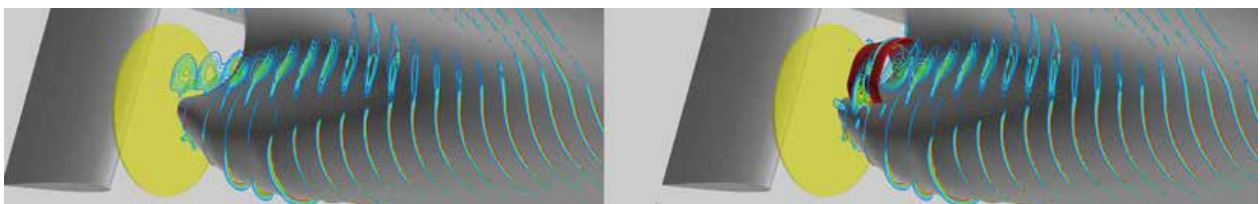

Fig.3 Confirmation of bilge vortex
Reduction of propeller hub vortex was confirmed through model tests in a cavitation tunnel (Figure 3/4).
Because the ways to cover the energy loss by our energy saving devices are different each other, it is verified that energy saving can be effective even with the combination by CFD analysis (Fig.3).
- The thruster propeller shaft seal utilizes the same shaft sealing device as our main propulsion systems. The sealing ring can be replaced in the afloat condition by bonding. (Fig. 3) (with the exception of our small unit)